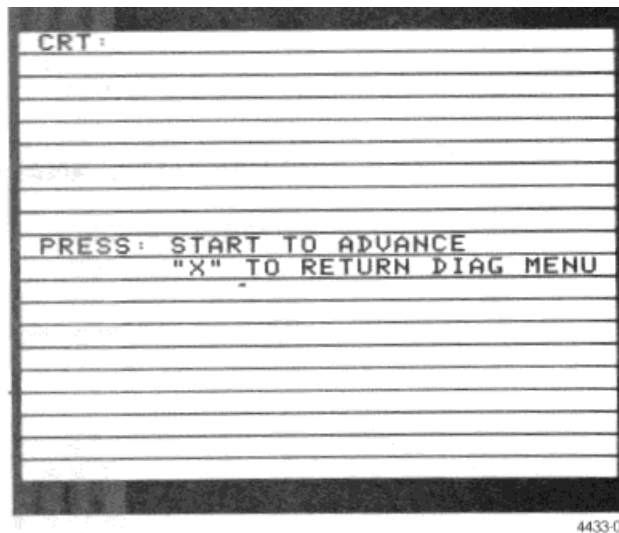

Figure 5-6. 318 CRT test white pattern.
- White pattern (Figure 5-6). Used to check for phosphor defects.